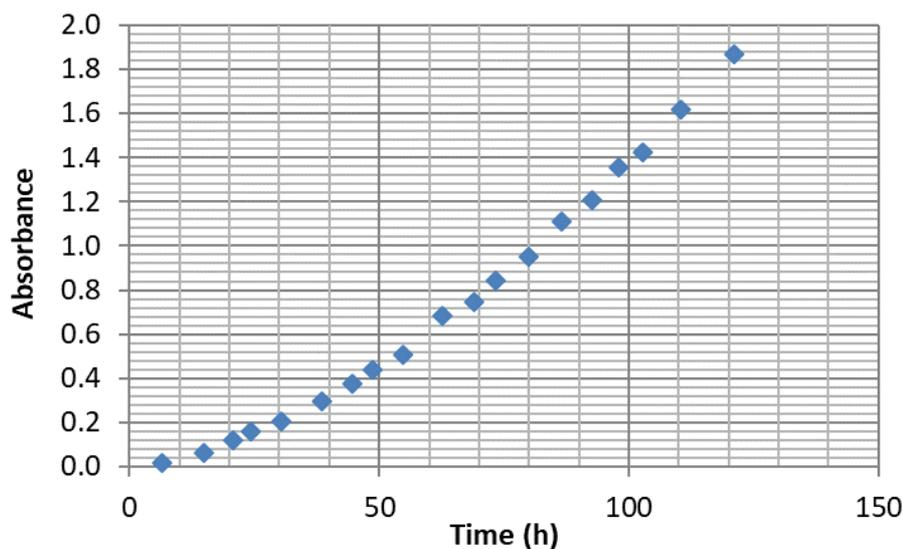

Figure 2:  $A_{470}$  (absorbance at 470 nm) as a function of time for the fructose - glycine reaction
$l = 1$  cm. The obtained data is shown in figure 2. Given the steps (1) and (2), the concentration of the melanoidin product  $[M]$  can be written as:
**18.8** Determine graphically the value of  $dA_{470}/dt$  ( $t = 80$  h) (derivative of  $A_{470}$  absorbance at  $t = 80$  h) based on Fig. 2.